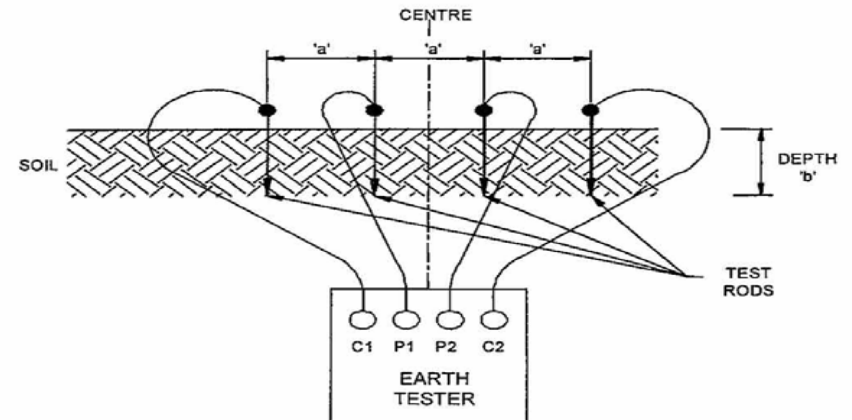

Figure: 1
Refer Figure 1. The earth tester pictured injects an AC current into the earth under test from terminal C1 to C2 utilising driven metallic stakes. The internal stakes shown measure the potential difference, and are connected to terminals P1 and P2. The meter will display a **resistance** measurement. This resistance, R, is used in the formula:
Where, ρ (Rho) is the average soil resistivity to depth a, π being the constant 3.1416. 'a' is also the distance of spacing between the electrodes used in the measurement, which must be equal between each electrode as shown in Figure 1.
- Starting at a spacing of 0.5m, place the 4 electrodes in a straight line taking care not to exceed the $a/20$ depth. This would place your current electrodes at 0.75m from the centre point and your potential electrodes at 0.25m from the centre. Connect the electrodes to the meter as shown in Figure 1 and measure the resistance, record on the test